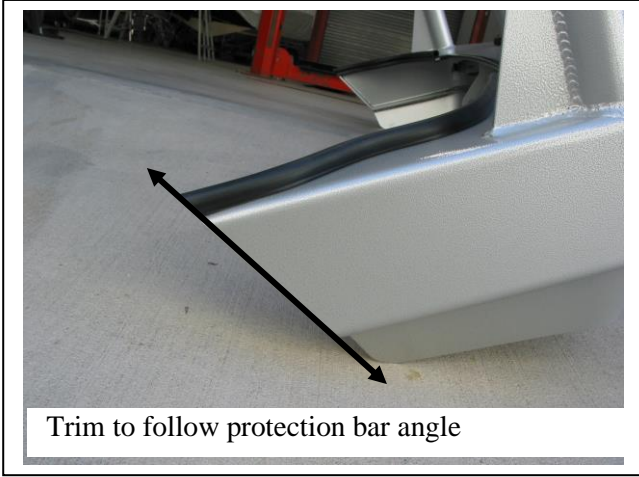

Figure 8
8. Attach infill trim (supplied) to top of ECB protection bar. **NOTE:** Trim 30mm off lower edge so trim will sit over end of protection bar. **See figures 6 and 7. Trim excess off end to follow protection bar. See figure 8. NOTE:** Seal any exposed edges of trim with silicone or similar to avoid corrosion of inner steel.